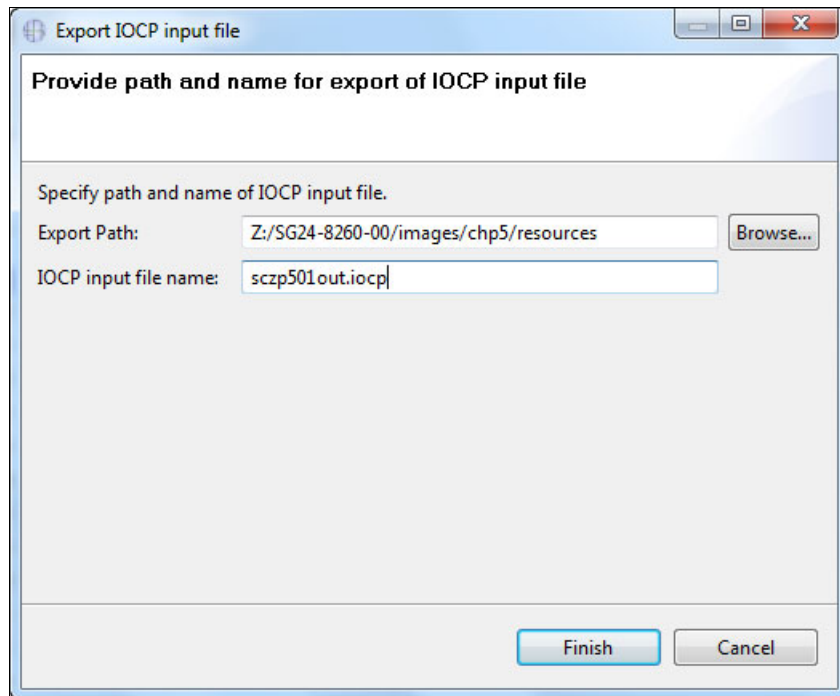

Figure 5-106 CMT - Export IOCP File
2. Enter the Export Path and IOCP Name for the IOCP output file and click **Finish** (Figure 5-106).